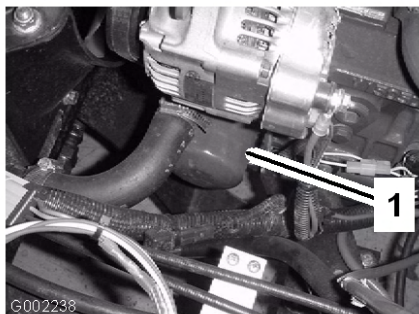

Figure 41
7. Remove the old oil filter (Figure 41).
10. Install the replacement oil filter to the filter adapter. Turn the oil filter clockwise until the rubber gasket contacts the filter adapter, then tighten the filter an additional 1/2 turn (Figure 41).